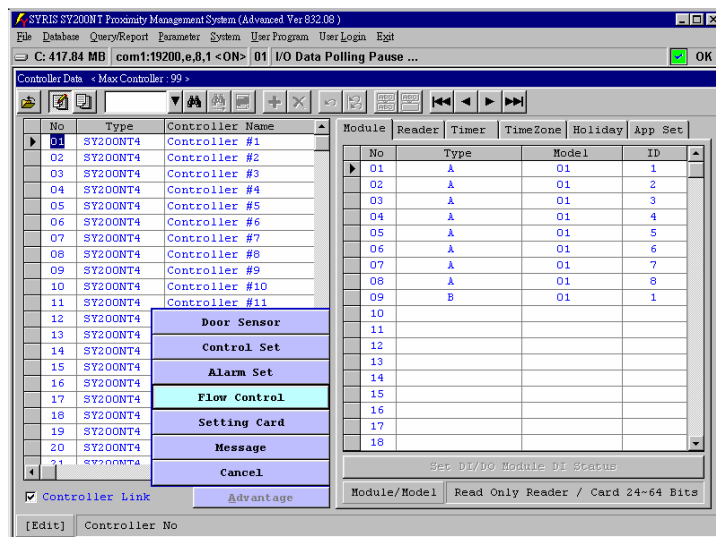

Fig.10-2 Advantage Sub-Menu
3. Click "Advantage" and wait sub-menu display, as Fig.10-2.